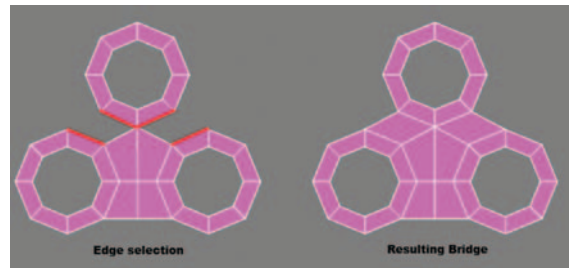

Figure 5.5 Edge selection and bridged result.
6. In Edge mode, bridge the diagonal two edges to the left and then the two edges to the right of the point we just welded. You must do one set at a time for this to work as expected (Figure 5.5).